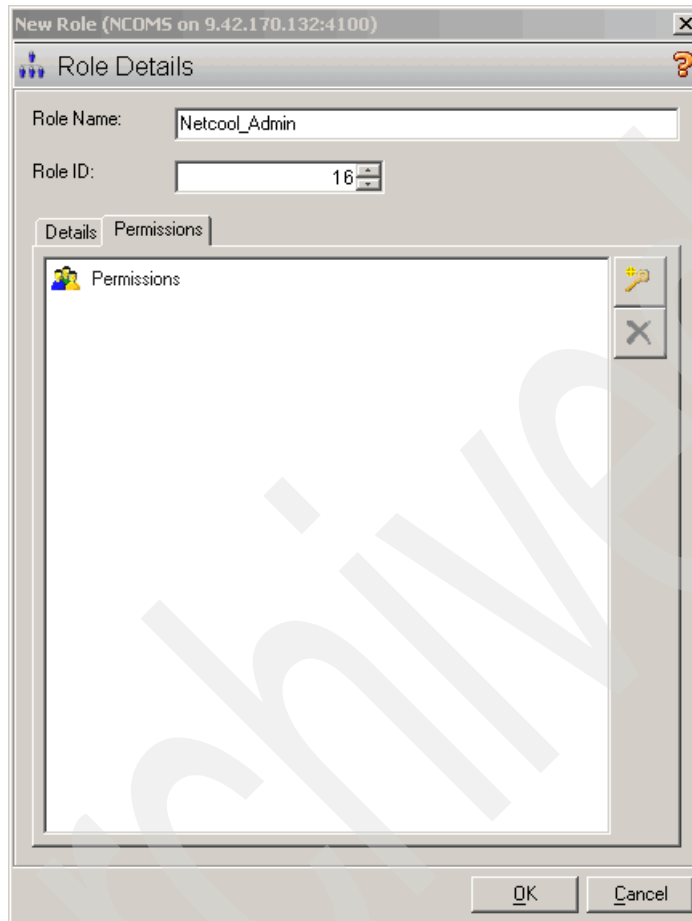

Figure 4-15 Permission tab
3. Assign role permissions, as shown in Figure 4-15.